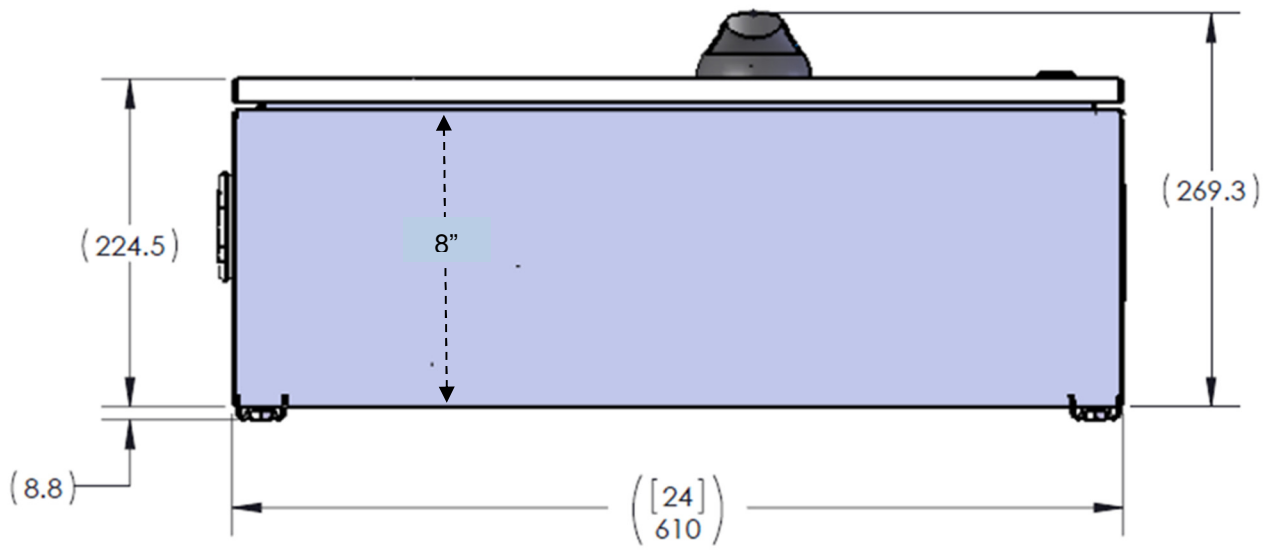

Fig 4.3 Bottom of the CR1500-xxP-yyF-zzzS Enclosure
- (1) field wiring of the PV Source Circuits (up to 28) -- positive polarity conductors to the fuseholders, negative polarity conductors to the 30-position negative terminal block, and equipment ground wires to the equipment ground terminals, and
- (2) field wiring of conductors from the PV Output Circuit terminals and the equipment ground lug to the XGI 1500 inverter (see the XGI 1500 User's Manual for further details on those connections).
- ✓ Conduit and strain reliefs can be located anywhere suitable on the bottom face of the Combiner as shown in Figure 4.3.